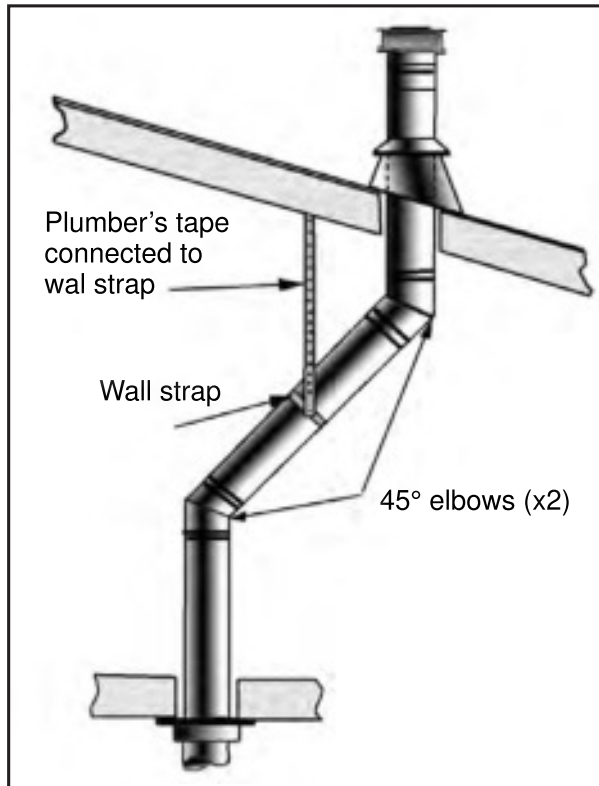
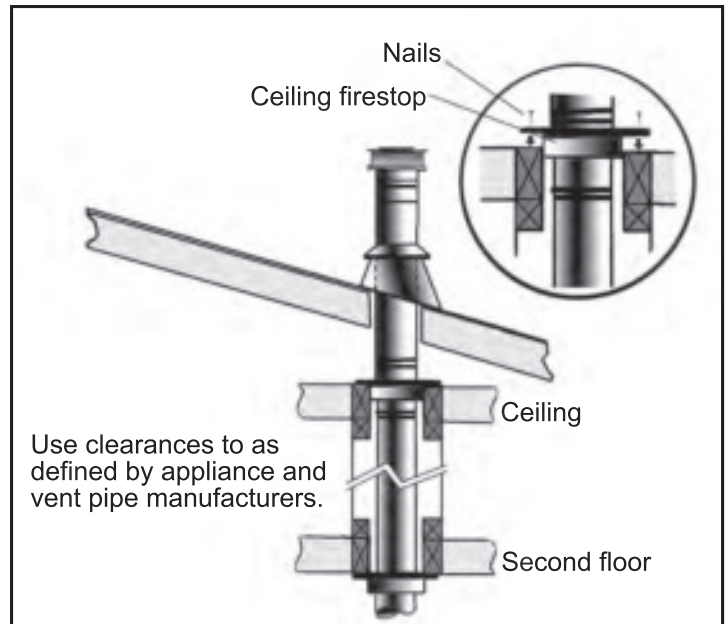

Figure 30: Use of Wall Straps.
Figure 31: Multi-Story Vent Pipe Installation.
- (1) If an offset is necessary in the attic to avoid obstructions, it is important to support the vent pipe every 3 feet (914 mm), to avoid excessive stress on the elbows, and possible separation. Wall straps are available for this purpose (see Figure 30).
- (2) When ever possible, use 45° degree elbows instead of 90° degree elbows. The 45° degree elbow offers less restriction to the flow of flue gases and intake air.
- (3) For multi story installations; a ceiling firestop is required at the second floor, and any subsequent floors (see Figure 31). The opening should be framed to 10" (254 mm) x 10" (254 mm) inside dimensions, in the same manner as shown in Figure 21.
- (4) Any occupied areas above the first floor, including